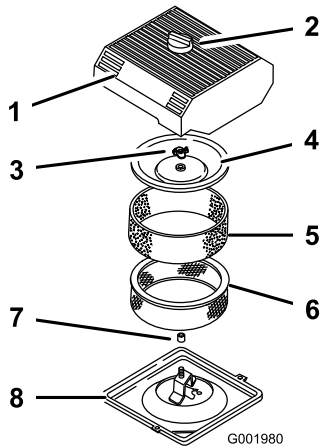

Figure 24
3. Clean around the air cleaner to prevent dirt from getting into the engine and causing damage (Figure 24).
4. Loosen the knob on the air cleaner cover and remove the cover (Figure 24).
5. Carefully slide the foam element off the paper element (Figure 24).
6. Unscrew the cover nut and remove the cover and paper element (Figure 24).
1. Carefully slide the foam element onto the paper air cleaner element (Figure 24).
3. Install the cover nut finger-tight against the cover (Figure 24).
4. Install the air cleaner cover and knob (Figure 24).